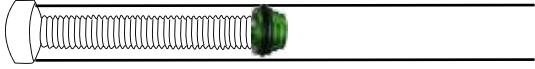

Fig 13
- Unscrew the screw from the shaft. (Fig 13)